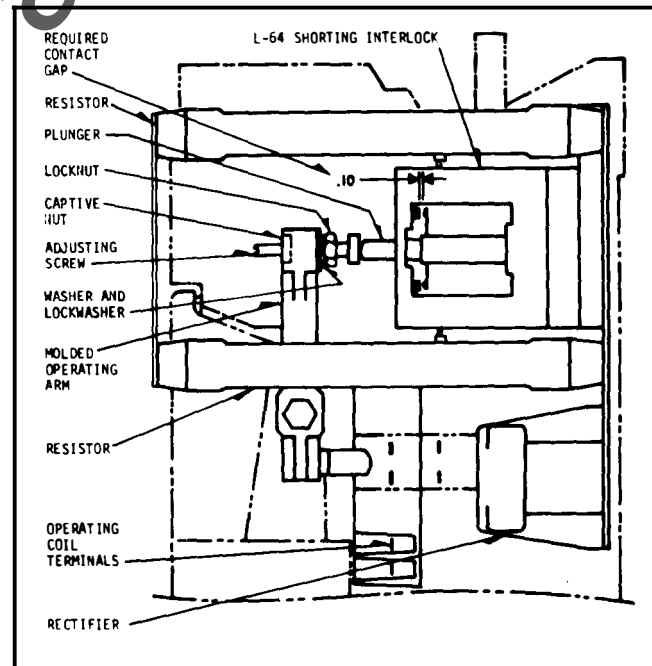

Fig. 6 Adjustment of Type L-64 Shorting Interlock (From Dwg. 3512C87)
- c) Type L-64 shorting interlock contact gap. For required gap see Fig. 6; for adjustment procedure see Maintenance instructions.
For proper contactor operation, the Type L-64 shorting interlock is to be initially adjusted for .10 contact gap between its stationary and moving contacts with the contactor fully closed. This gap must never be less than .04" nor more than .12". If adjustment is required, see Fig. 6 and follow this procedure:
- 4) Turn adjusting screw (screwdriver slot) to obtain the required .10 gap shown in Fig. 6